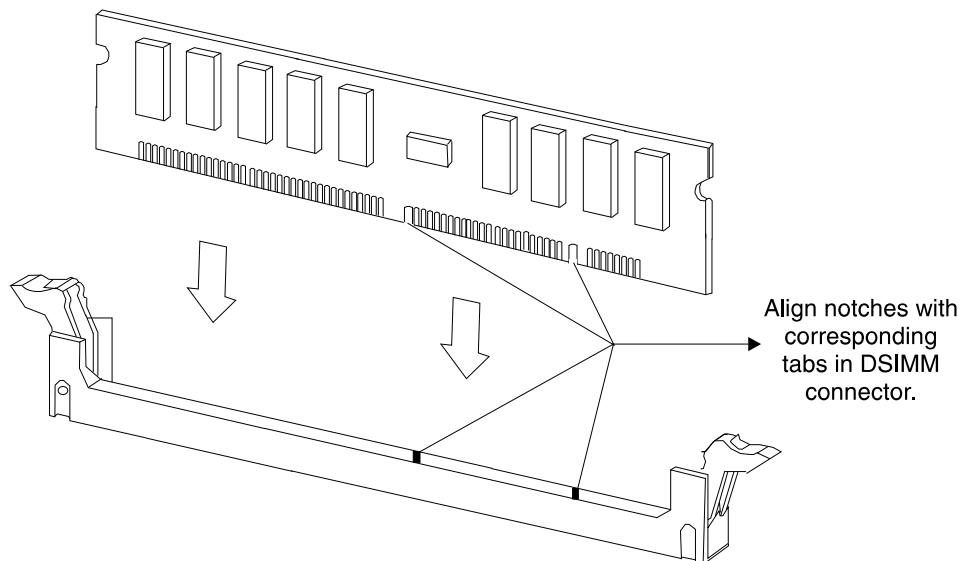

Figure D-10: Orienting a DSIMM
4. Align the DSIMM with the slot. Hold the DSIMM by its edges and orient it so that the two notches at the bottom of the DSIMM line up with the two tabs in the DSIMM connector (see Figure D-10).